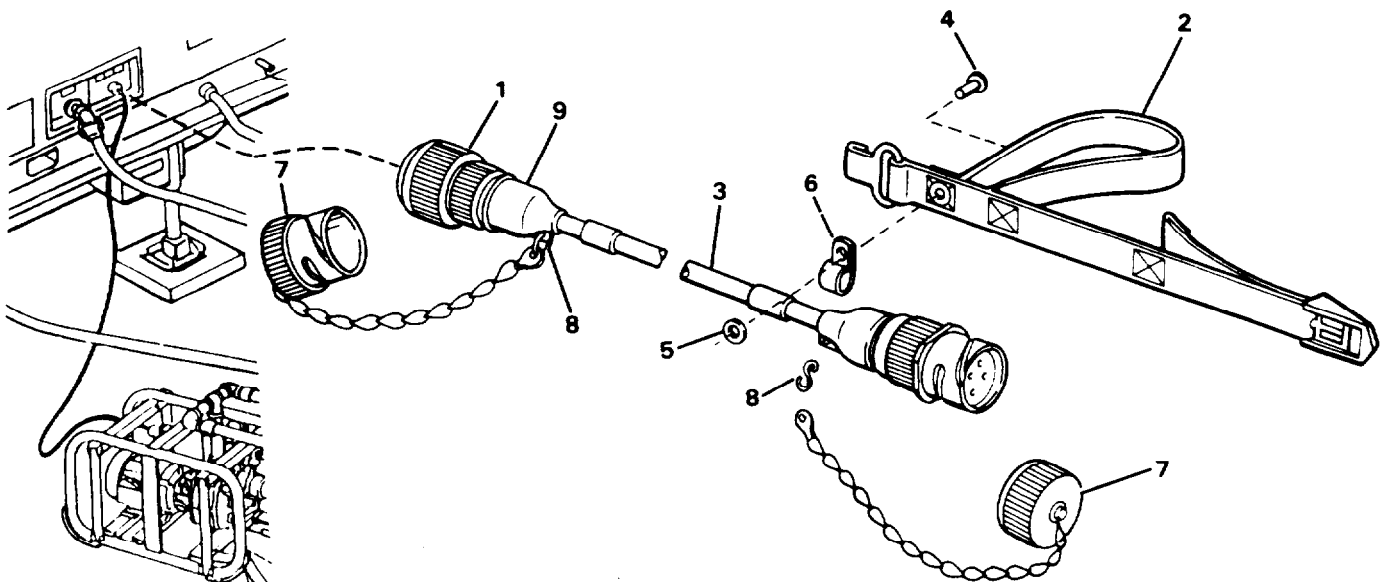

Figure 4-15. Raw Water Pump Power Cable
- a. Refer to Figure 4-15 and disconnect cable by turning connector (1) 1/4 turn counterclockwise.
- a. Remove strap (2) from cable (3) by drilling out the rivet (4) and removing flat washer (5) and clamp (6).
b. Remove dust caps (7) by prying open S-hook (8).